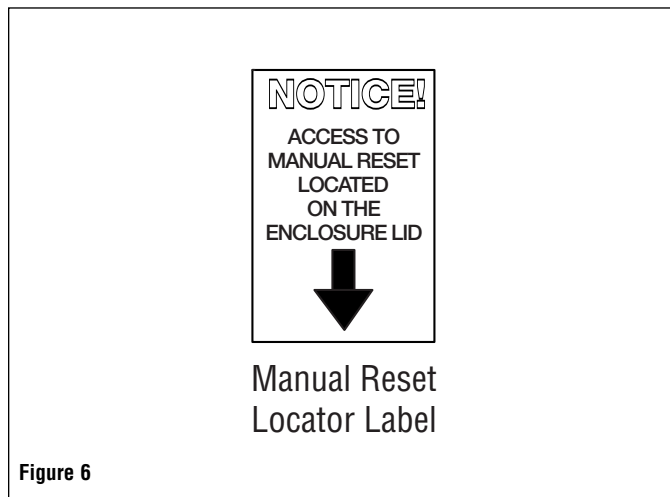
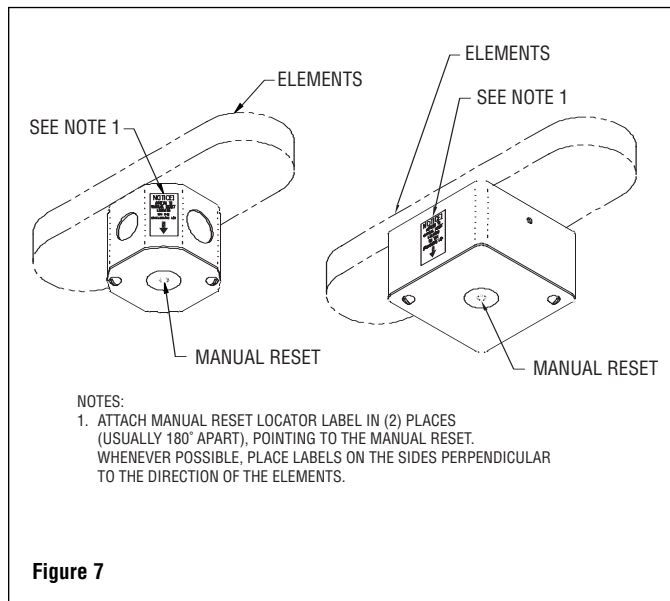

Figure 6
Figure 7
16. Apply manual reset locator label (see fig. 6) in view, to help locate the manual reset button. See Fig 7.